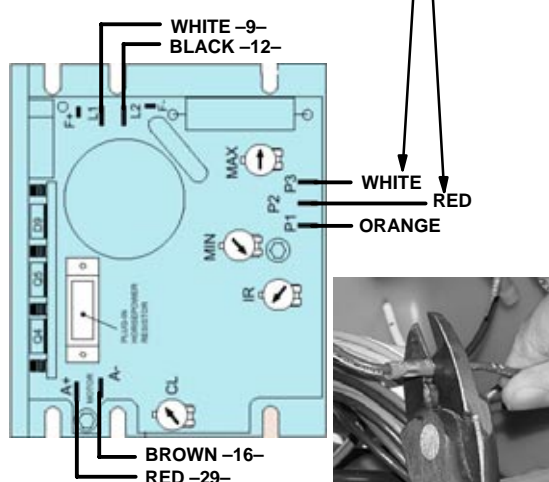

Fig. 6
7. Connect the 7 wires, supplied with kit, to the control board terminals as shown (Figure 6). The wires are equipped with terminals and butt-splices.
8. Using a crimper tool, connect the 7 control board wires to the 7 wires you cut and stripped, match up wire colors/numbers (Figure 6).